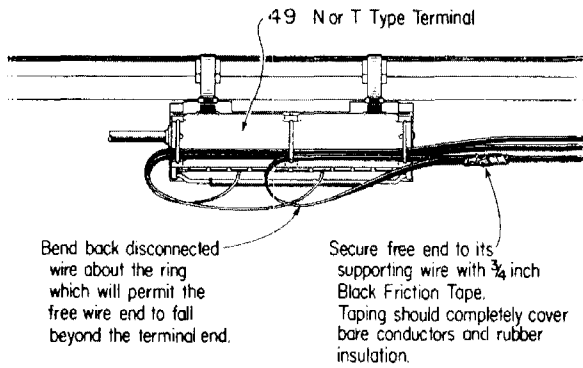

Fig. 11 – Strand and Cable Mounted Terminal
7.01 Where B drop wire caps are not available, wire ends may be taped with friction tape in the manner indicated in Fig. 11 and 12. The method for disposing of disconnected wire at various types of terminals is similar to that covered in parts 3, 4, 5, and 6 for capped wire ends.